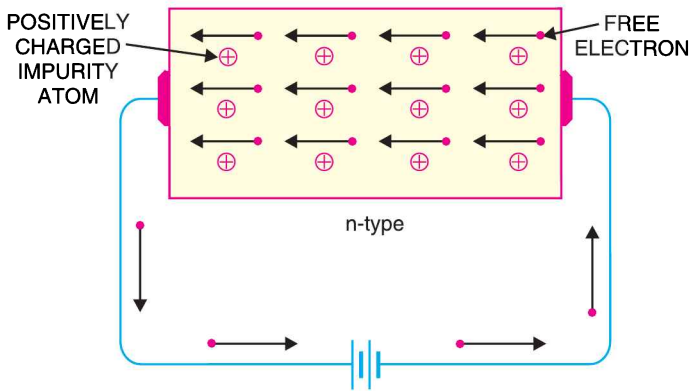

Fig. 5.13
***n*-type conductivity.** The current conduction in an *n*-type semiconductor is *predominantly* by free electrons *i.e.* negative charges and is called *n*-type or *electron type conductivity*. To understand *n*-type conductivity, refer to Fig. 5.13. When p.d. is applied across the *n*-type semiconductor, the free electrons (donated by impurity) in the crystal will be directed towards the positive terminal, constituting electric current. As the current flow through the crystal is by free electrons which are carriers of negative charge, therefore, this type of conductivity is called negative or *n*-type conductivity. It may be noted that conduction is just as in ordinary metals like copper.